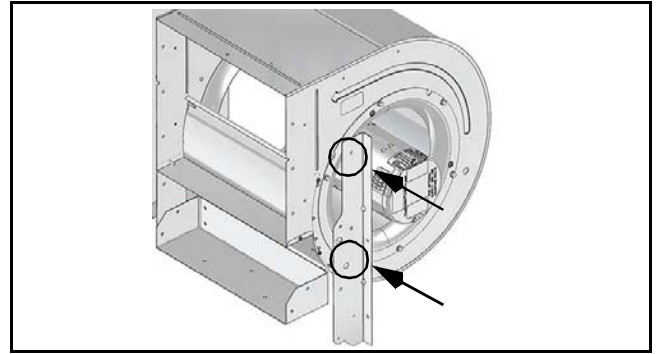

Fig. 22
13. Reinstall the remaining bracket using two screws. (See Fig. 22.)